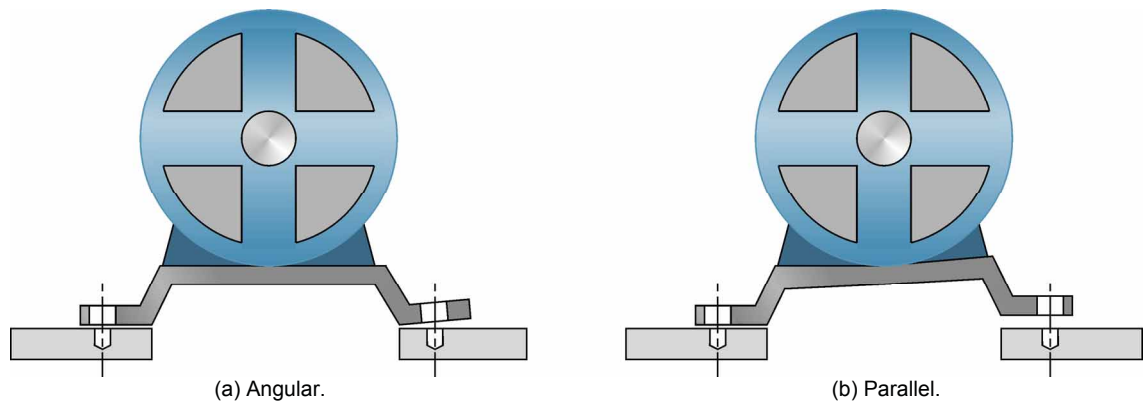

Figure 2-19. Angular and parallel soft foot.
2. Make sure the generator is resting equally on four feet (Figure 2-19).